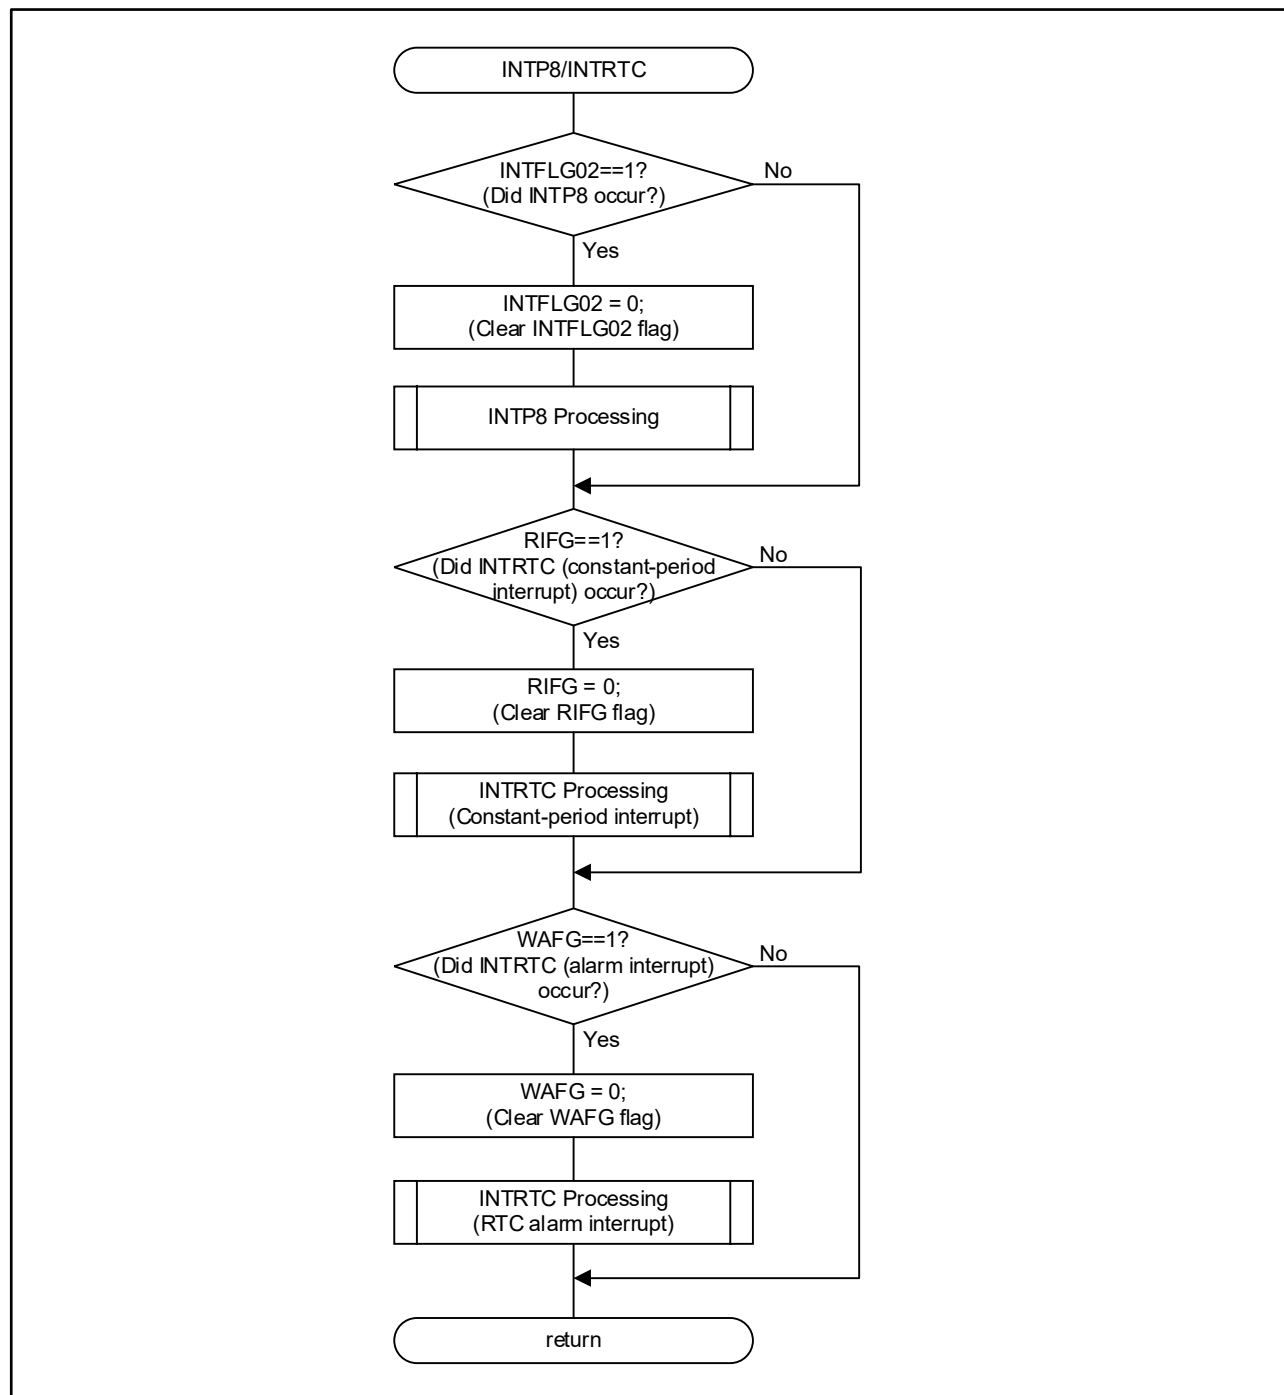

**Figure 1-3 INTP13/INTCLM Interrupt Judgement Example**
**Figure 1-3** shows an interrupt processing example in case of both INTP13 (Pin input edge detection 13) and INTCLM (PLL clock stop detection) are enabled.